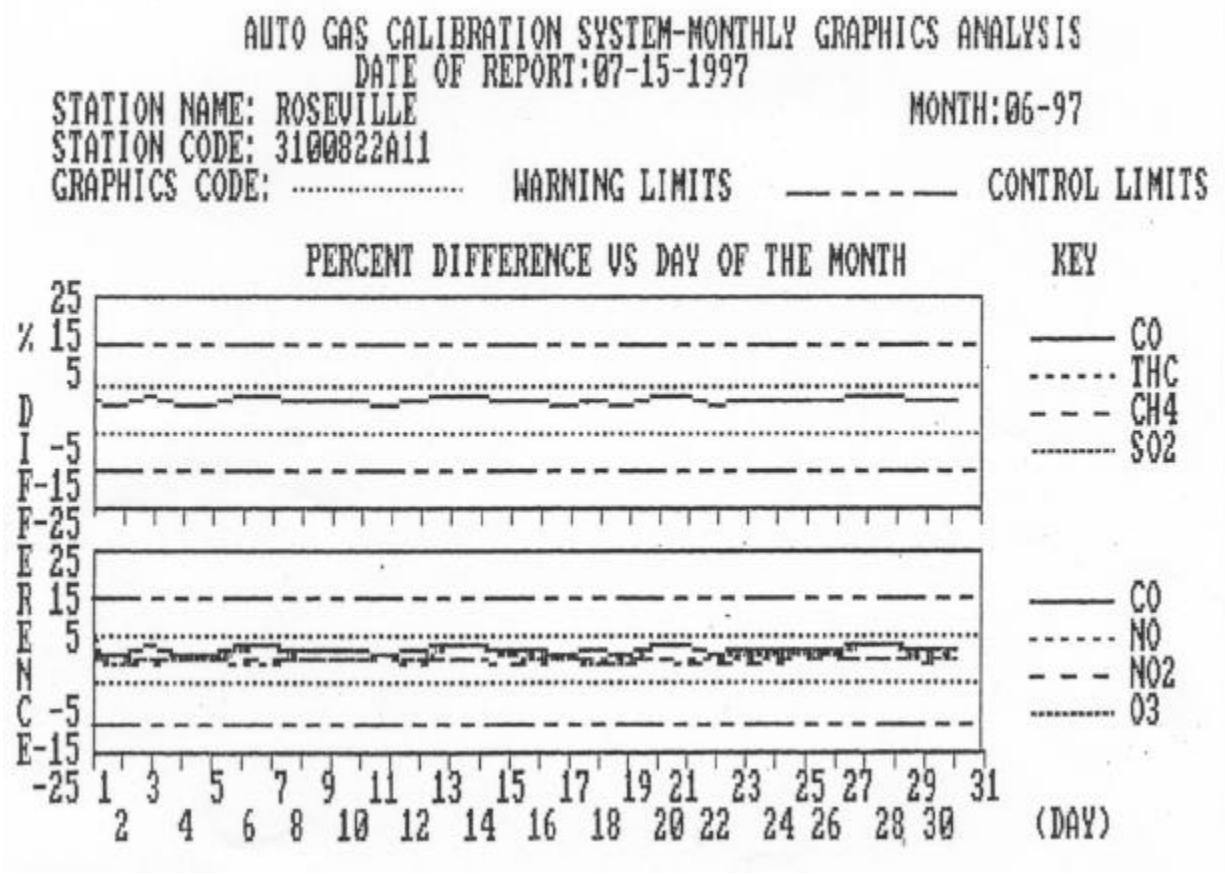
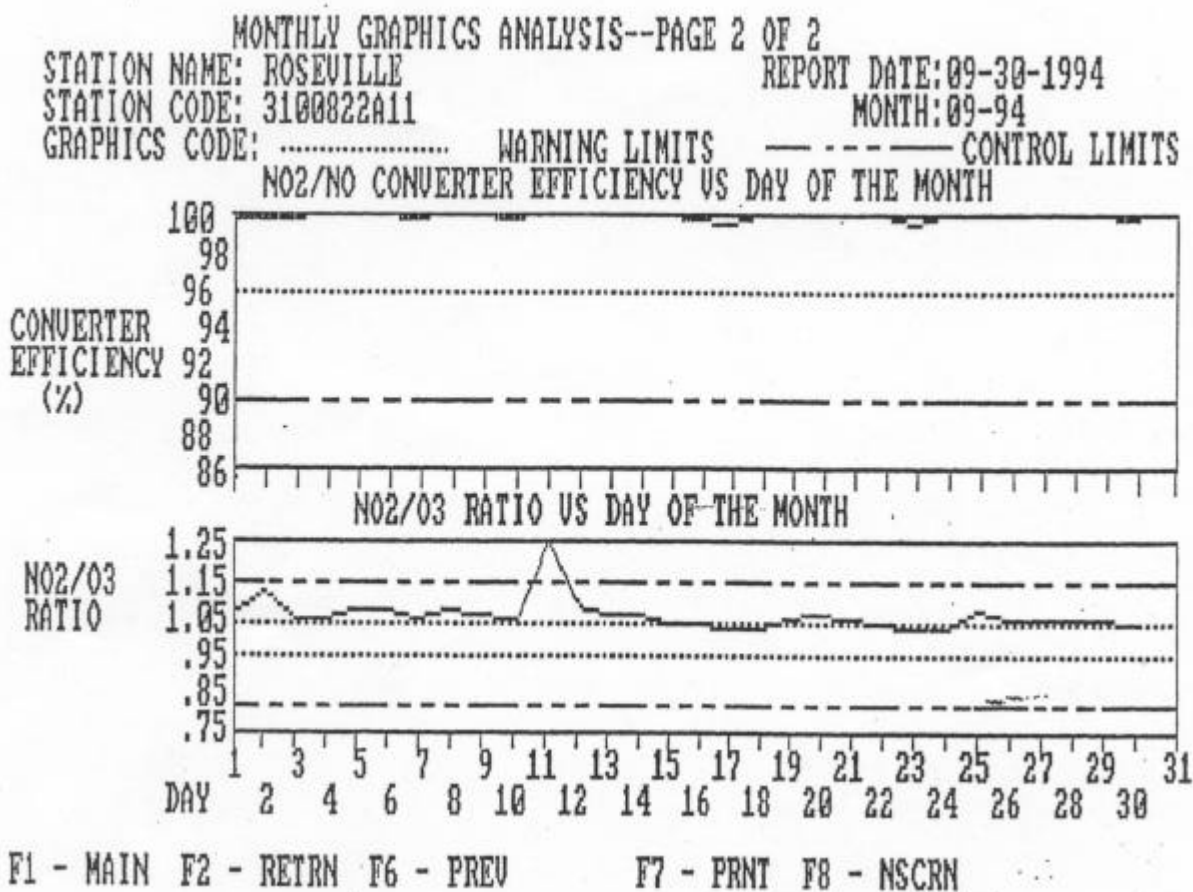

Figure AC.5.0.3
Figure AC.5.0.4
2. Check to see if the NO, NO₂, NO_x, O₃, CO, CH₄, and SO₂ traces come up and level out as quickly as illustrated in Figures AC.5.0.3 and AC.5.0.4. If the trace(s) overshoot and then drop down, it may indicate: a) contamination of superblend line or probe line, b) an ambient air analyzer malfunction, or c) a problem with the Environics 9100 mass flow controllers.
At the end of the month the air monitoring station technician will print out the monthly quality control graphs for all gaseous pollutants. The graphs will be evaluated by the Air Pollution Specialist or Air Pollution Engineer responsible for the second level of data review. Examples of these graphs are presented in Figure AC.5.0.3, the Auto Gas Calibration System-Monthly Graphic Analysis, and Figure AC.5.0.4, the Monthly Converter Efficiency and NO₂/O₃ Ratio Graphs.
Upon review of the Auto Gas Calibration System-Monthly Graphic Analysis (Figure AC.5.0.3), one will notice a plot of carbon monoxide (CO) on the top portion of the graph. CO data are plotted showing percent difference versus day of the month. The response of the CO analyzers have proven very stable. Thus, other data are evaluated with respect to carbon monoxide values. The plot at the bottom of the page is for all of the pollutants. If all of the plots of the pollutants move synchronously with CO, then the analyzers are apparently operating fine. If all of the instrument's calibration data fall below 15 percent or rise greater than 15 percent, the chances are that the calibration system is having a problem that needs to be dealt with as soon as possible. System malfunction examples include: a pure air generator failure, loss of station temperature control, a calibrator ozone generator problem, or a calibrator mass flow controller malfunction. If the trace of one analyzer shifts with respect to the other analyzers, one can reasonably assume that the individual analyzer has malfunctioned.
The top portion of Figure AC.5.0.4 illustrates the converter efficiency of the nitrogen dioxide analyzer. The California state standard for nitrogen oxides is for nitrogen dioxide (NO₂). NO₂ is determined by the subtractive method of nitric oxide (NO) from all nitrogen oxide species (NO_x). Since this analyzer works by the principle of chemiluminescence, all NO_x must be converted to NO before it can be detected. This conversion takes place in the nitrogen oxides analyzer converter. For NO₂ data collected from ambient air to be valid, the analyzer must demonstrate a converter efficiency greater than 96 percent.
The ozone concentration generated in Steps 3 and 4 of the precision and span programs should be constant. As a result, the ratio of the NO₂ generated in Step 3 and the ozone generated in Step 4 should be constant. The bottom portion of Figure AC.5.0.4 illustrates the NO₂/O₃ ratio versus the day of the month. The expected value of this test is near 1.0. Listed below are several ways the ratio may be evaluated: